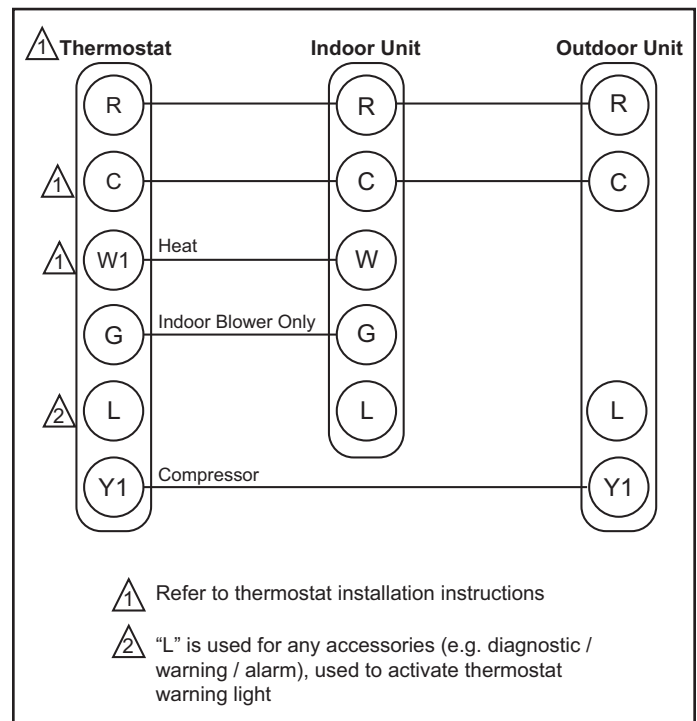

Figure 8. Thermostat Designations - 24V Conventional Thermostat
5. Install low voltage wiring from outdoor to indoor unit and from thermostat to indoor unit (see Figure 8).